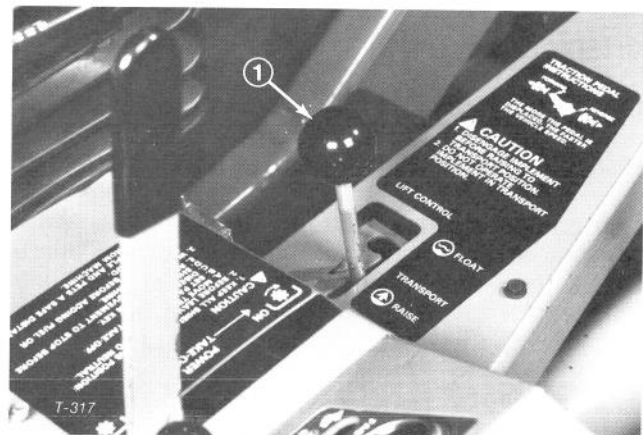
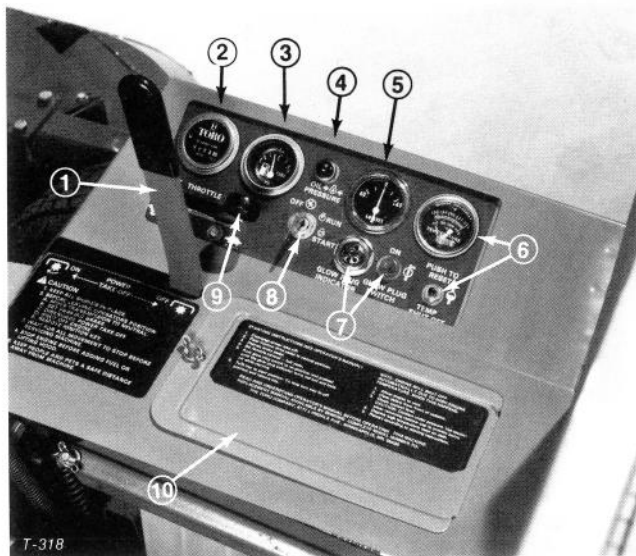

Figure 20
Figure 21
Lift Lever (Fig. 20) — The hydraulic lift lever has three positions: FLOAT, TRANSPORT and RAISE. To lower implement to the ground, move lift lever forward into notch, which is the FLOAT position. The FLOAT position is used for operation and also when machine is not in operation. To raise implement, pull lift lever backward to the RAISE position. After implement is raised, allow lift lever to move to the TRANSPORT position. Normally, implement should be raised when driving from one work area to another, except when descending steep slopes.
PTO Lever (Fig. 21) — The PTO lever has two positions: ON, engage and OFF, disengage. Slowly push PTO lever fully forward to ON position to start the implement or cutting unit blades. Slowly, pull lever backward to OFF position to stop implement operation. The only time PTO lever should be in the ON position is when implement or cutting unit is down in operating position.
Hour Meter (Fig. 21) — The hour meter registers accumulated hours of engine operation. Use the hour meter to determine intervals for service maintenance and lubrication.
Fuel Gauge (Fig. 21) — Indicates quantity of fuel remaining in fuel tank.
Oil Pressure Warning Light (Fig. 21) — The oil pressure warning light will glow and a buzzer will sound when oil pressure in engine drops below a safe level. If low oil pressure ever occurs, stop engine and determine the cause. Repair the damage before starting the engine again.
Ammeter (Fig. 21) — Ammeter shows charge rate of the battery by the alternator. When engine is running, there usually is a slight charge, unless engine is idling slowly. Needle will point to 0 when battery is fully charged. By contrast, alternator is not charging the battery when needle points to (-) negative side of ammeter, and if this happens, repair the charging system to prevent discharge of the battery.
Temperature Switch/Gauge and Reset Button (Fig. 21) — The temperature switch/gauge registers the temperature of the coolant in the cooling system. If temperature of coolant gets too high the engine will shut off automatically. When this happens, rotate ignition key to OFF. Automatic shut-off of the engine usually results from debris on front of screen or radiator, which reduces air flow. After cleaning outside of screen and radiator or repairing some other damage, press the reset button and start the engine.
Glow Plug Switch and Indicator (Fig. 21) — Use to preheat engine cylinders before and during starting procedures. Push switch lever upward and hold while watching indicator. Indicator will glow red when sufficiently heated. Length of time necessary to preheat cylinders should be determined by atmospheric temperature; refer to Starting/Stopping Engine, page 19.
Key Switch (Fig. 21) — The key switch, which is used to start and stop the engine, has three positions: OFF, RUN and START. Rotate key clockwise to the START position to engage starter motor. When engine starts, release key and it will move automatically to the ON position. To shut engine off, rotate key counterclockwise to the OFF position.
Throttle Control (Fig. 21) — Throttle is used to operate engine at various speeds. Moving throttle forward increases engine speed — FAST; backward decreases engine speed — SLOW. The throttle regulates the speed of the cutter blades or other implement components and, in conjunction with traction pedal, controls ground speed of the traction unit.
A 40 amp circuit breaker is also incorporated to protect the entire wiring circuit. A reset button is located on the lower side of the panel, which can be reached after removal of the battery cover (Fig. 21, 23). The button should be depressed if a total loss of all electrical functions should occur. However, the electrical system should first be checked to ascertain the reason for the malfunction; refer to Electrical Troubleshooting, pages 24-29.
1. Ensure parking brake is set, PTO lever is in OFF position (Fig. 21) and lift lever is in TRANSPORT or FLOAT position (Fig. 20). Remove foot from traction pedal and insure it is in neutral.
2. Move throttle control (Fig. 21) to full FAST position.
4. Turn key in key switch to START position (Fig. 21). Release key immediately when engine starts and allow it to return to RUN position. Move throttle control to SLOW position.